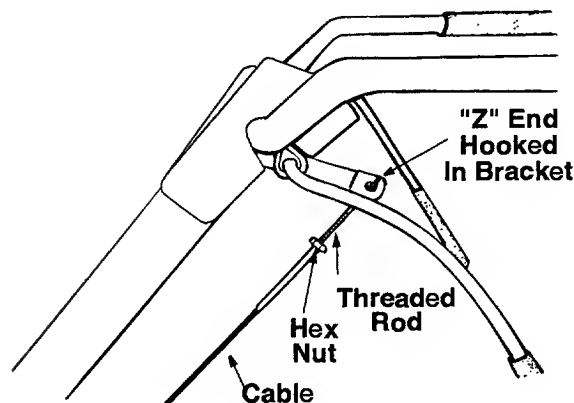

Figure 6
2. Unthread the rod from the rest of the cable. Hook the "Z" end of the rod into the bracket underneath the handle assembly from the right hand side as shown in Figure 6.